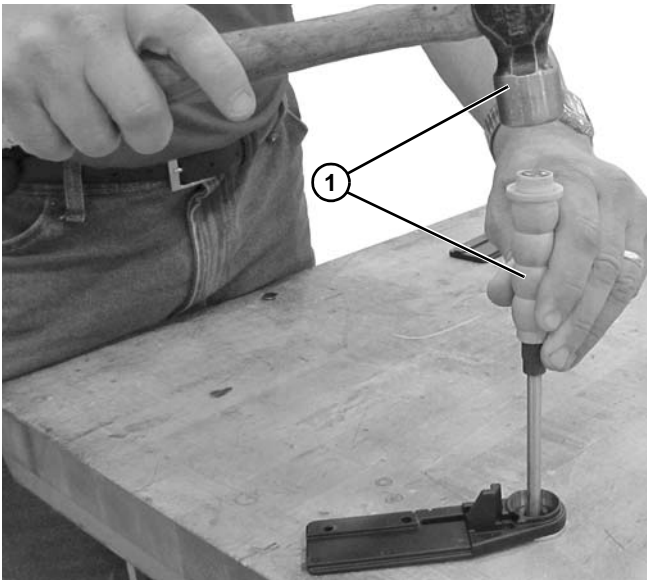
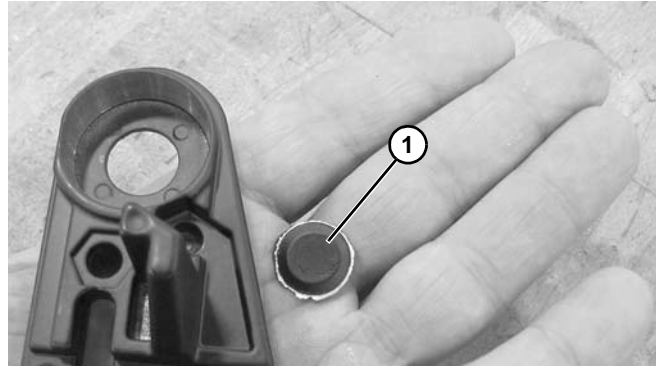

Figure 93
Figure 94
3. Use a hammer and punch (1/4" - 1/2" dia) (**Figure 93, item 1**) or long bolt to knock out slug (**Figure 94, item 1**) for shaft backing up tail plate with washer.